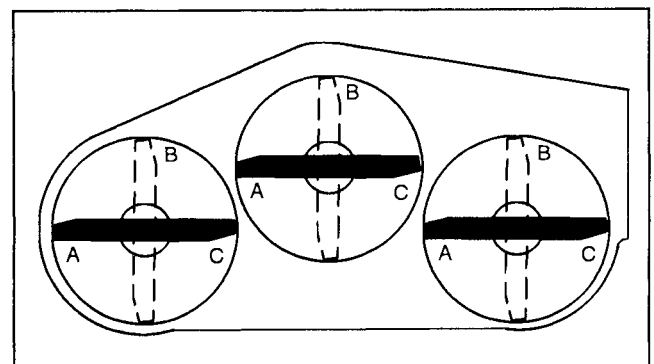
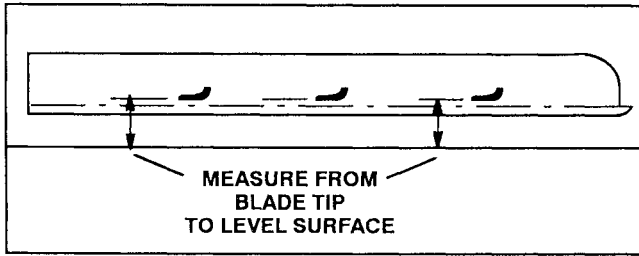

Figure 15
Figure 16
CORRECTING CUTTING UNIT MISMATCH (Fig. 15– 17)
4. Position all three blades in the "A" position (Fig. 15) and measure from level surface to the bottom of the tip end of each blade (Fig. 16).
5. Note measurement attained at "A", rotate blades to "B" position (Fig. 15), measure distance of all blades to level surface and note dimensions (Fig. 16).
6. Rotate blades to "C" position, measure and note distance measured (Fig. 15, 16).